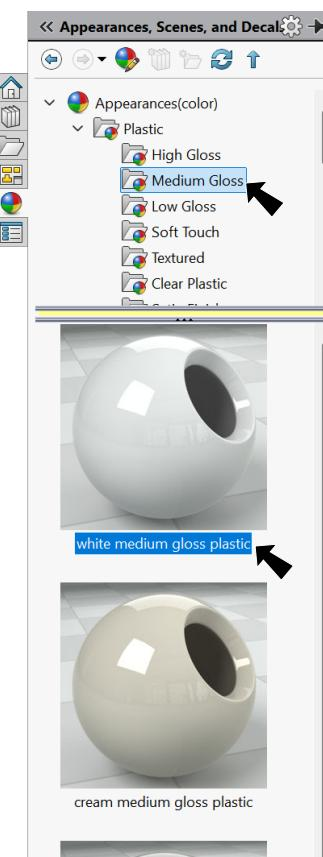

Fig. 69
Step 2. In the Appearances Task pane, expand Plastic, click Medium Gloss and in the lower pane select white medium gloss plastic, Fig. 69.